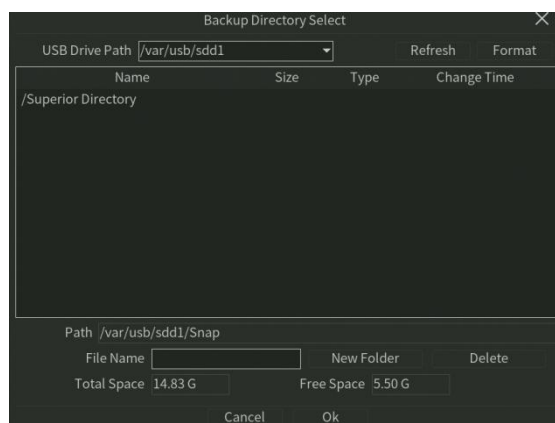

Figure 7.24 Snap Image Backup Setting
8. Click **Backup** button to start the backup (Note need plug the USB disk), as shown in figure 7.24 and 7.25.